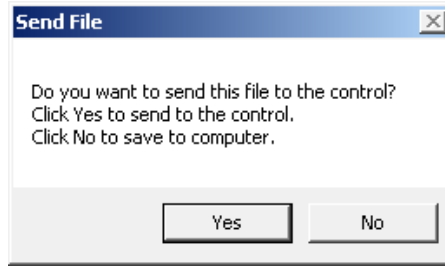

Figure 3-8 Send User File Screen
9. From the Manage Account Permissions screen menu bar select **File/Save** or **Save As**. IPSCom will display a "Send File" screen to allow the user to save the file to the unit or to the computer (Figure 3-8).